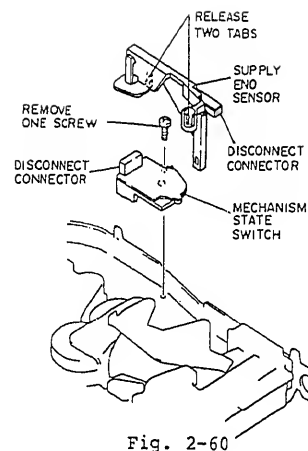

Fig. 2-60
1. Disconnect connector CN001 on the supply end sensor. (See Fig. 2-60)
3. Release two (2) tabs of the supply end sensor.
5. Remove one (1) screw holding the mechanism state switch.